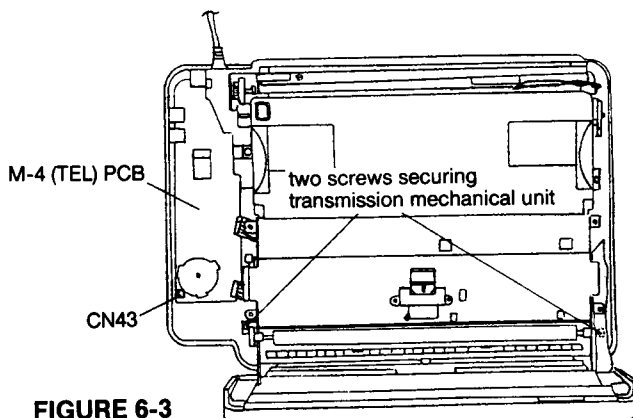

FIGURE 6-3
- Disconnect the CN 43 on the M-4 (TEL) PCB. (See figure 6-3)
- Remove two screws securing transmission mechanical unit. (See figure 6-3)